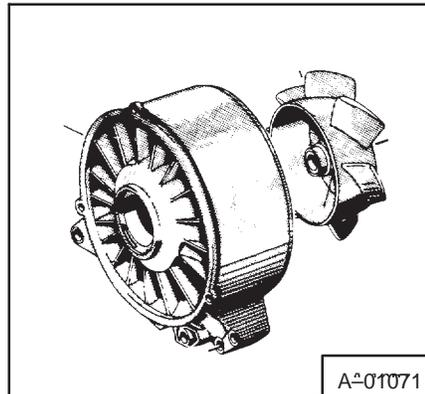

Fig. 1-22 Deutz Cooling Fan
3. Remove housing and clean cooling fins when need (Fig. 1-22, 1-23, & 1-24).